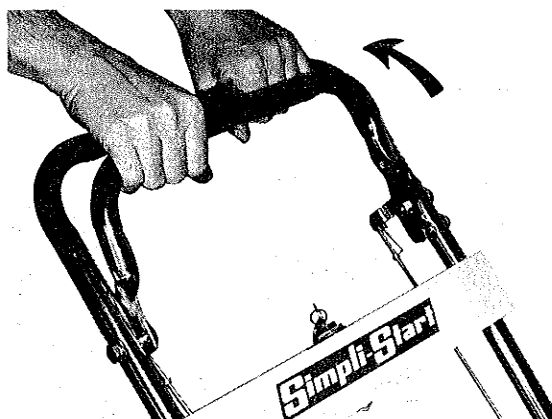

FIGURE 7
1. On self-propelled models be sure the Touch-O-Matic bar is pulled all the way to the rear in the disengaged position. (See Figure 7).